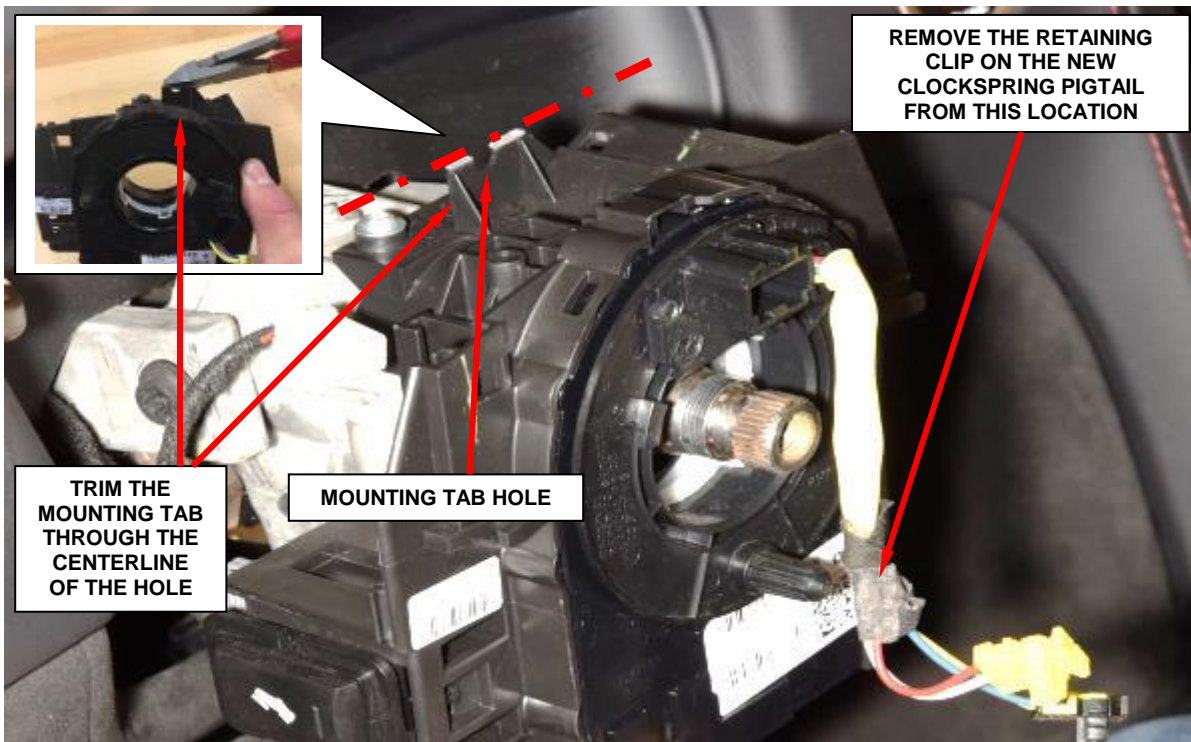

Figure 10 – Rework New Clockspring
21. Using an appropriate cutter, trim the tab at the top of the **NEW** clockspring through the centerline of the hole as shown (Figure 10).
22. Remove and discard the retaining clip from the **NEW** clockspring pigtail (Figure 10).